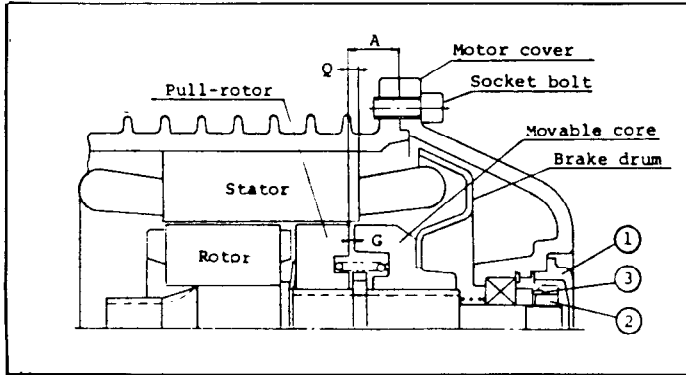

Fig. 11
- 1) In addition to the above-mentioned "G" dimension, the "Q" dimension shown in Fig. 11 also affects core pull-in performance.
- 2) The specified "Q" dimension shall be .039 inch min. Measure "A" dimension in Fig. 11 to confirm "Q" dimension.